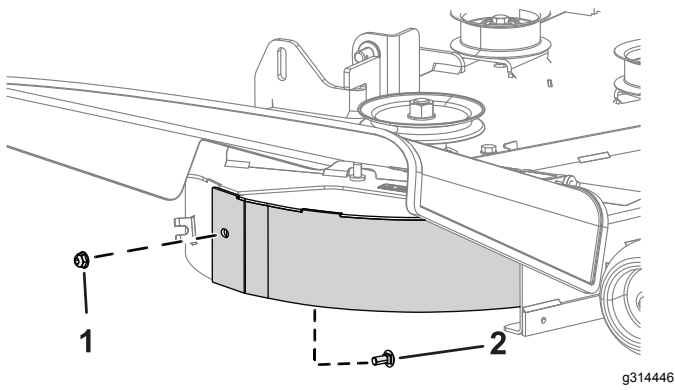

Figure 5
2. Secure the rear wall of the right baffle to the mower deck using 1 carriage bolt (5/16 x 3/4 inch) and nut (5/16 inch) as shown in Figure 5.